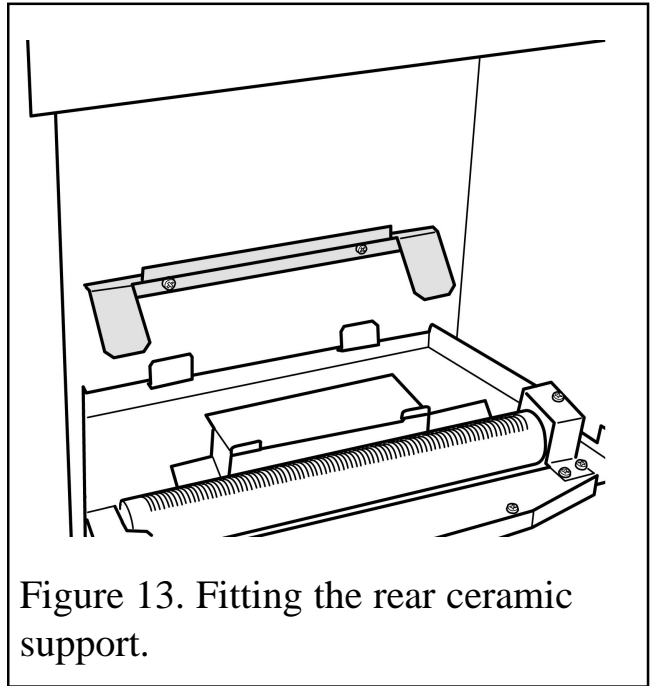

Figure 13. Fitting the rear ceramic support.
7. This appliance is supplied with a rear ceramic support bracket. Fit this using two screws supplied (See figure 13)